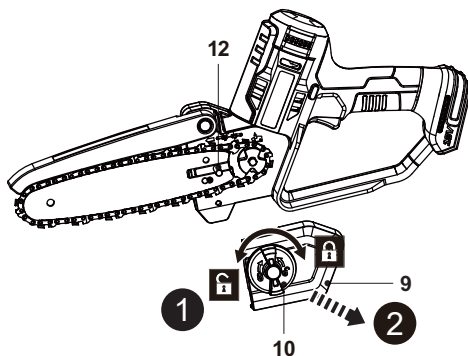

Fig. 1
2. Unscrew the locking knob (10) counterclockwise, then remove it together with the sprocket cover (9) from the mounting bolt (12) (Fig. 1, steps 1, 2).